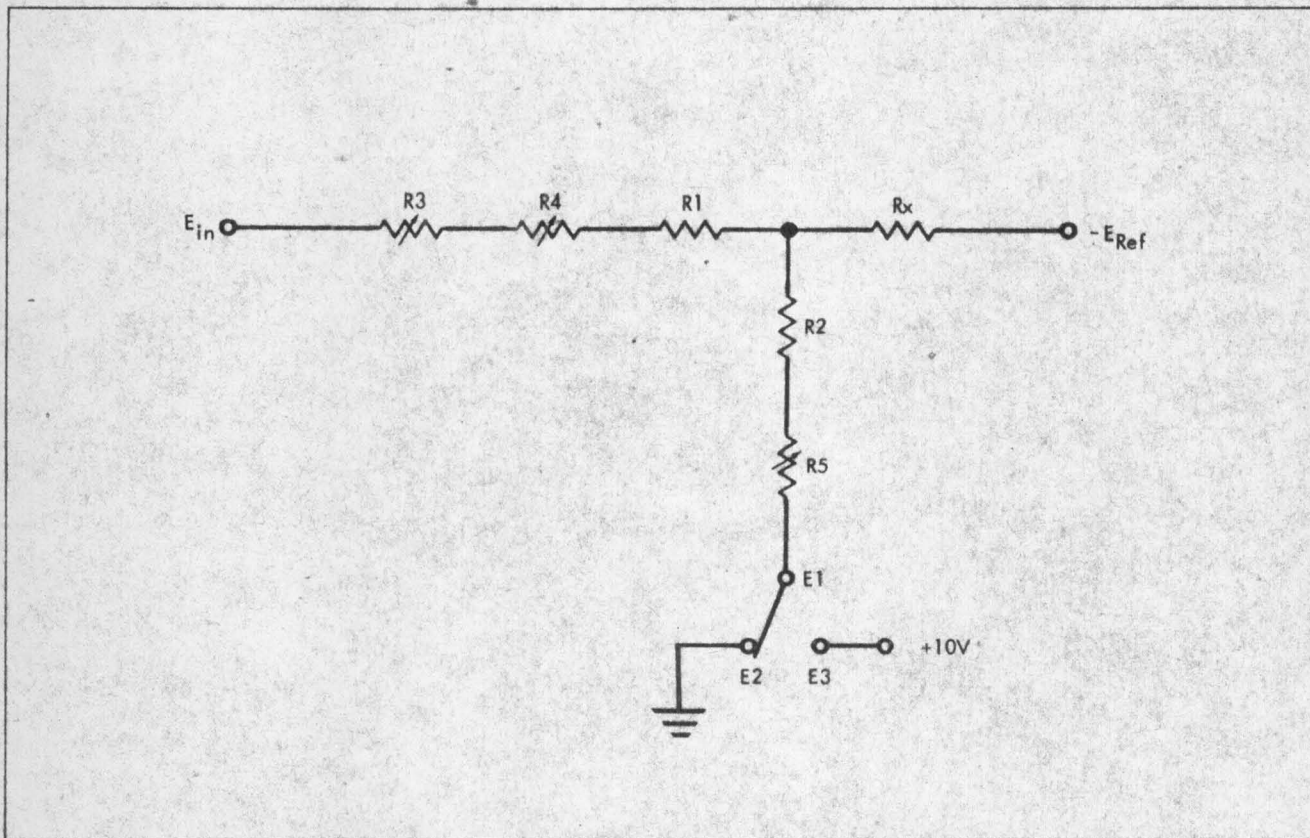

Figure 2. Resistance Adder Network, Simplified Schematic
4. CIRCUIT DESCRIPTION (See figures 2, 3, and 4)
5. Resistance Adder Network - The resistance adder network receives three inputs. The analog input is received through 1 to R3, the switch matrix output is applied to pin 20, and a +10-volt reference is applied to pin 18. The analog input is the input applied to the basic equipment. The switch matrix provides a precise voltage dependent upon its selected resistance value. The +10-volt reference is used whenever an offsetting voltage is required to provide bipolar operation. Refer to figure 2 for a simplified schematic of the resistance adder network. The amplifier input is obtained at the junction of the three resistances ($R1 + R3 + R4$), ($R2 + R5$), and (RX). Assume a balanced condition such that ($R1 + R3 + R4$) equals ($R2 + R5$) equals (RX)/2. If E_{ref} equals -10 volts, $E1$ is at the ground position and the amplifier input is at null,